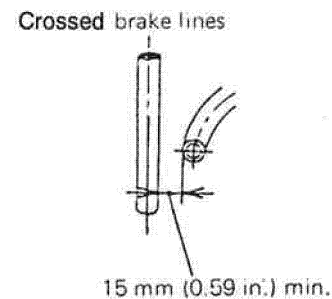

Fig. 4
- Avoid crossing brake lines. If this is unavoidable, position each line so it clears the other by more than 15 mm {0.59 in.}. (Fig. 4)